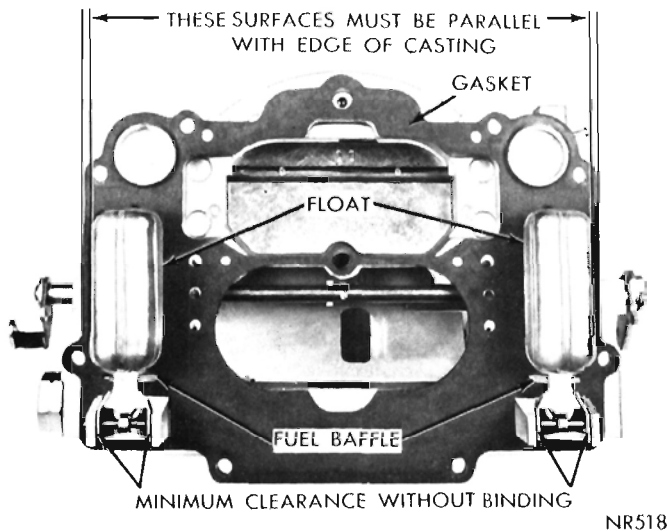

Fig. 8—Checking Float Alignment
- (1) Sight down side of each float shell to determine if side of the float is parallel to outer cage of air horn casting (Fig. 8).
- (2) If sides of float are not in alignment with edge of casting, bend float lever by applying pressure to end of float shell with thumb. **To avoid damage to the float, apply only enough pressure to bend the float lever.**
- (3) After alining floats, remove as much clearance as possible between arms of float lever and lugs of air horn. To do this, bend float lever. The arms of float lever should be as parallel as possible to inner surfaces of lugs of casting.